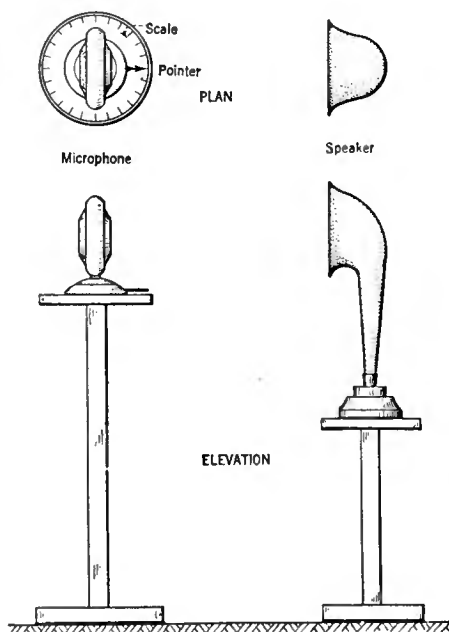
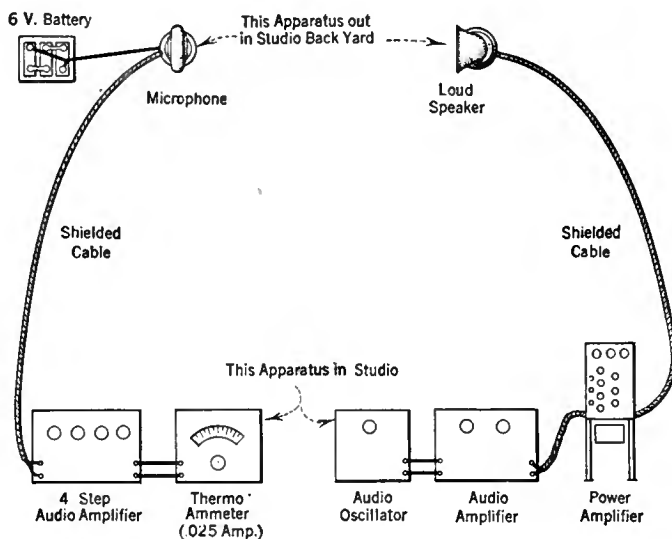

FIG. 1
FIG. 2
Fig. 1 is a sketch showing the physical arrangement of the apparatus in these tests, and Fig. 2 is a diagram of the connections.
1. Set up emitter and receiver facing each other as shown in Fig. 1.